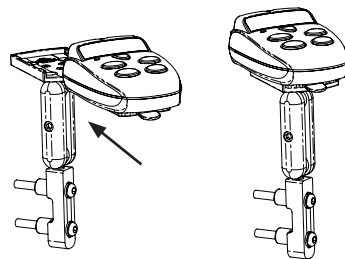

Figure 5
6. Slide the *Main Console* (sold separately) onto the *Mounting Plate* as shown in **Figure 5**.